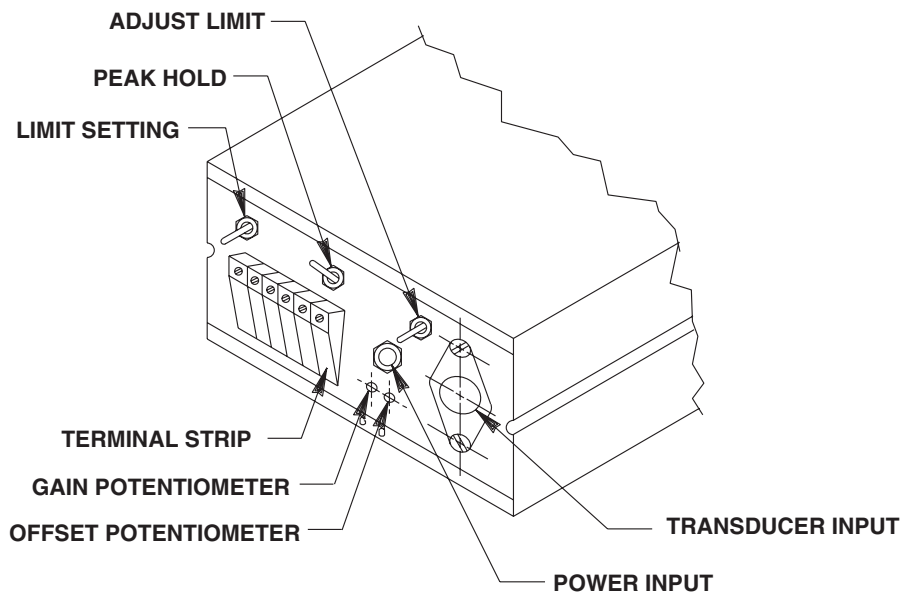

Figure 2
4. The HIGH limit and LOW limit pressure settings can be made by holding the toggle switch labeled LIMIT toward the HI arrow for HIGH limit or LO arrow for the LOW limit. In this mode you will also display the current pressure limit setting for the respective HIGH or LOW limit. While continuing to hold the switch marked LIMIT in the HI or LO mode, press the toggle switch labeled ADJUST LIMIT one direction to increase the respective setting or the other way to decrease that setting. The terminal block is labeled for both the HI limit and the LO limit relay outputs as shown in Figure 2. The center terminal of both the HI limit and the LO limit terminal strip is the common side. Connect the other wire to one side of the respective terminal strip for a normally open switch position or the other side for a normally closed switch position. The relay contacts are rated at 120 VAC and 5 AMPS maximum.
6. The openings labeled "G" and "O" are for GAIN and OFFSET (see Figures 2 & 4). These settings are used at the factory during the calibration of the display with its pressure transducer and will be plugged after these adjustments. The "G" and "O" openings should not be altered in any way as it will affect the accuracy of the gauge. **Note: If calibration adjustments of the display are necessary, see sheet 2 of 2.**